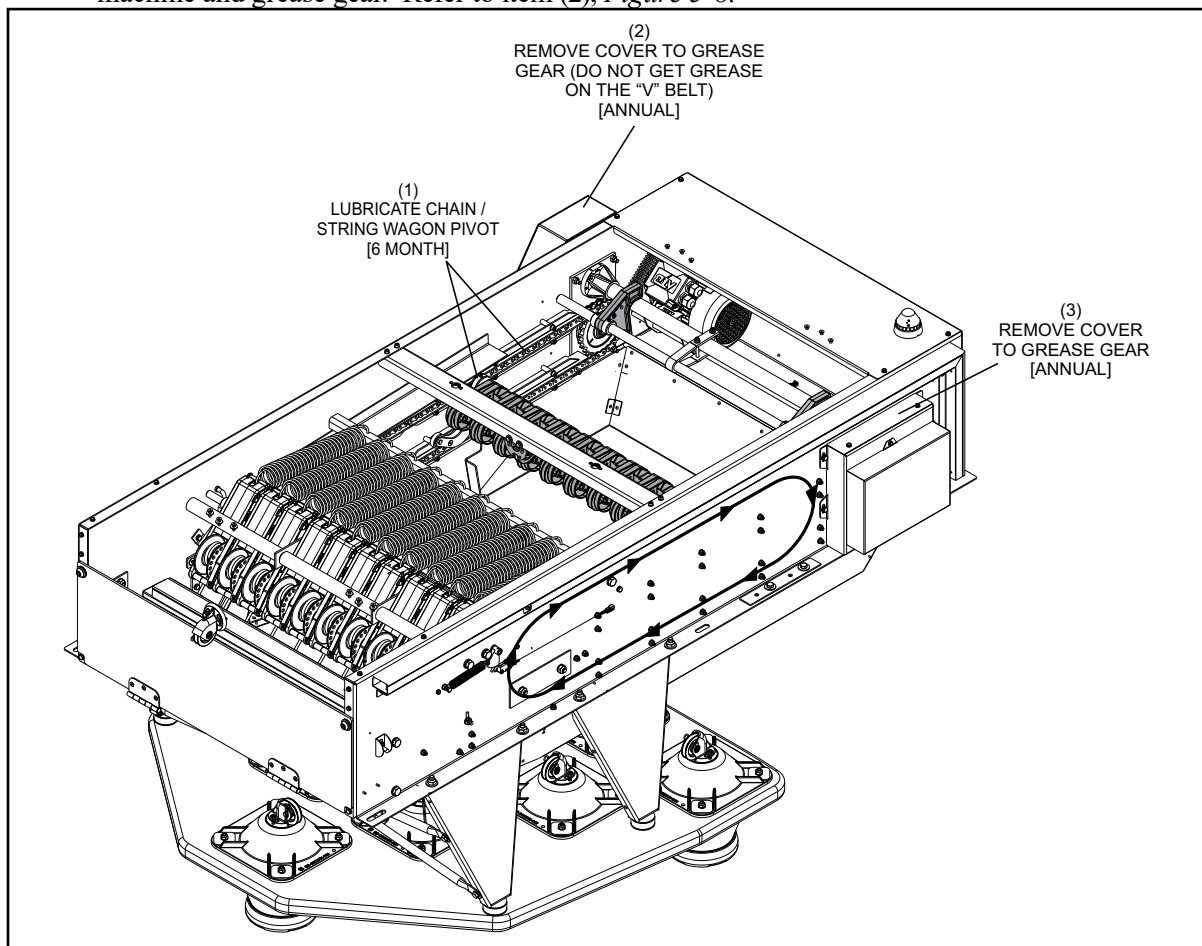

Figure 5-8. Lubrication Locations
- Lubricate the chain with chain lubricant. Put a light coating of chain lubricant on drive chains - Allow penetration, then remove excess. Refer to item (1), *Figure 5-8*.
- Apply lubricant to the pivot point where the string wagon is attached to the chain. Refer to item (1), *Figure 5-8*.
- Remove the switch cluster plate located the right side of the rear of the pinsetter. Apply grease to the drive gears. Refer to item (3), *Figure 5-8*.
- Remove cover from the motor and gear assembly located on the left side of the rear of the machine and grease gear. Refer to item (2), *Figure 5-8*.